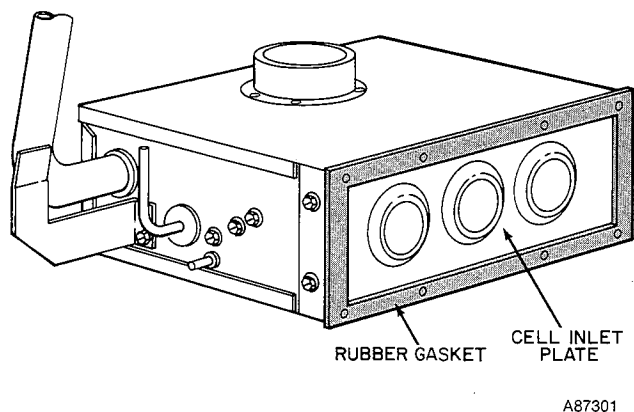

Fig. 10—Burner Closure
12. Check condition of gasket on cell inlet panel of burner enclosure. Replace gasket if necessary. See Fig. 10.